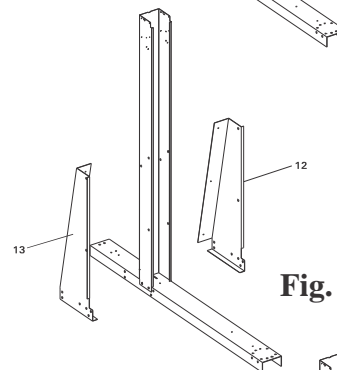

Fig. 13
C) Once the straight side 4"x4" uprights are attached, apply the left and right side gussets on each. The pieces are marked "L" and "R". The gussets are applied under the channels and around the straight side upright. Once you have them in place screw the left and right gussets to each other using three #10 screws. See Fig.13 for visual instructions.